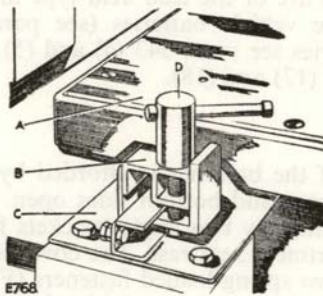
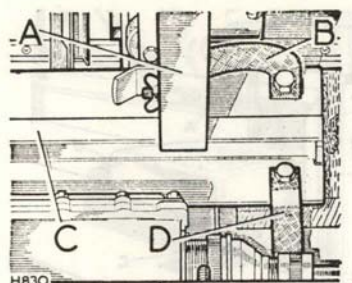

Fig. 117 Radio table
Fig. 122 Radio table earth braid
324. A table top (Fig. 117) to carry one or two radio sets is located immediately behind the driver's compartment seat rest. It is secured by four screw clamps (Fig. 117) to a pair of runner assemblies (Fig. 117) bolted to the vehicle body wheel arches. The table top is earthed to the vehicle by copper braids, located at the right-hand side, via the runner assemblies.
- (1) Remove the fuse located on the left side of the instrument panel assembly and stow in some convenient bin.
- (2) Unscrew the four table top clamping screws (Fig. 117 (D)).
- (3) Slide the retaining brackets from the runners.
- (4) Release the table earth braid (Fig. 122 (B)) from its fixing at the right-hand forward stay of the slotted angle framework (Fig. 109 (1)) and lift off the table.
- (5) Release the two runner assemblies; each is secured by four bolts with nuts and locknuts. Also release the earth braid connecting each assembly to the body (Fig. 122 (D)).